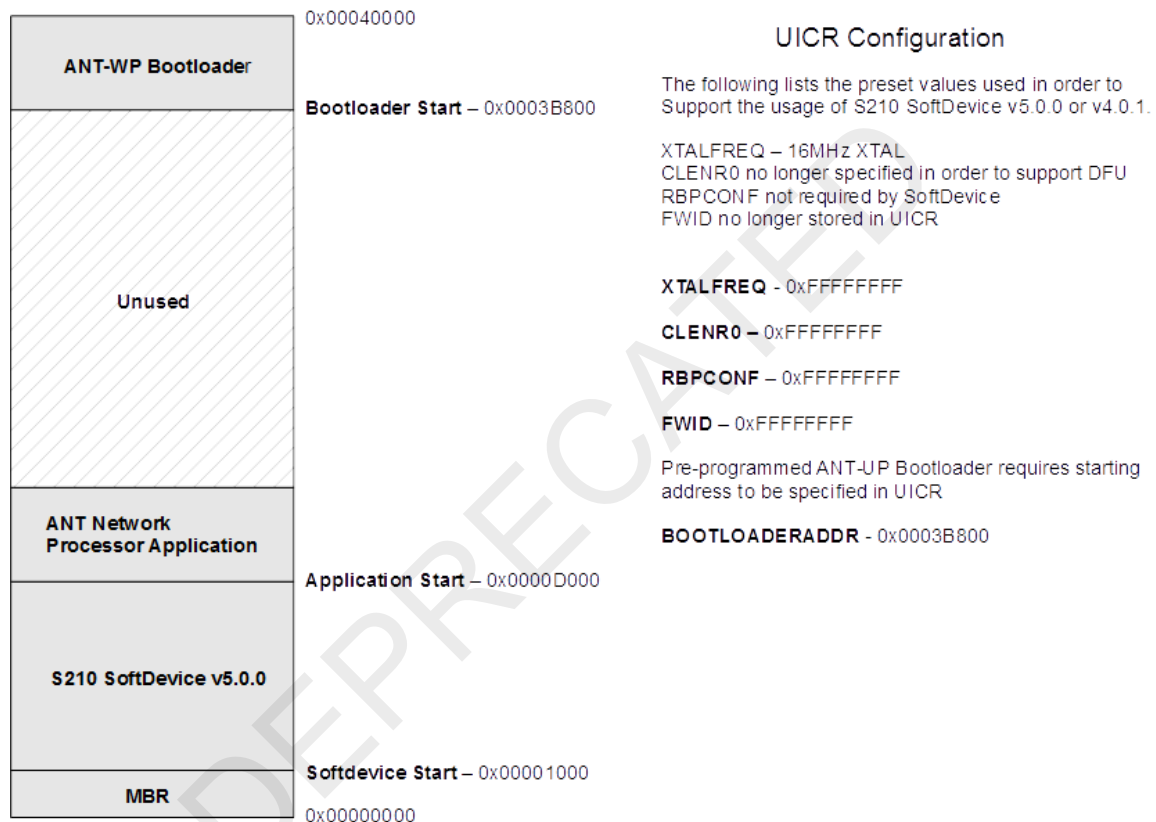

Figure 7: Memory Map of the Preloaded Software
The N5 module is preloaded with the S210 SoftDevice, the ANT-WP bootloader, and the ANT Network Processor (NP) code as illustrated in Figure 7: Memory Map of the Preloaded Software. Depending on the module revision, the preloaded code varies. Please refer to Appendix C: N5 Module Pre-Loaded Software Versions.
It is important to note that the BOOTLOADERADDR field in the UICR is set to the starting bootloader address location by default. If the desired programmed application needs to reclaim the bootloader region and/or if bootloader support is not required, then the BOOTLOADERADDR field in the UICR must be set to 0xFFFFFFFF. The erase-all command via nrfjprog.exe/nRFgo Studio should reset this field. Please refer to Figure 7: Memory Map of the Preloaded Software.